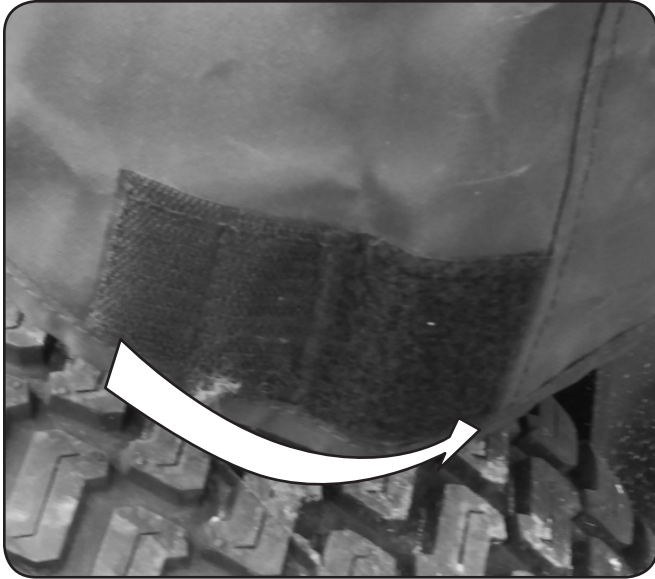

Figure 3-17
- 10. Secure the two velcro tabs on the back corners of the snow cab to ensure a tight fit. See Figure 3-17.